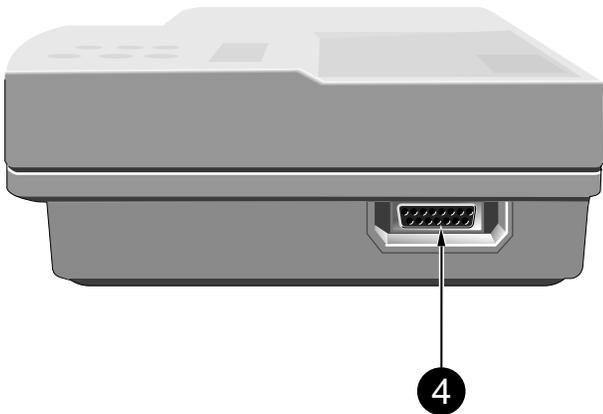

Figure 4-1. ECG signal input (type CF, highly insulated, defibrillation proof)
- Connect the patient cable to the ECG signal input (4, Figure 4-1).